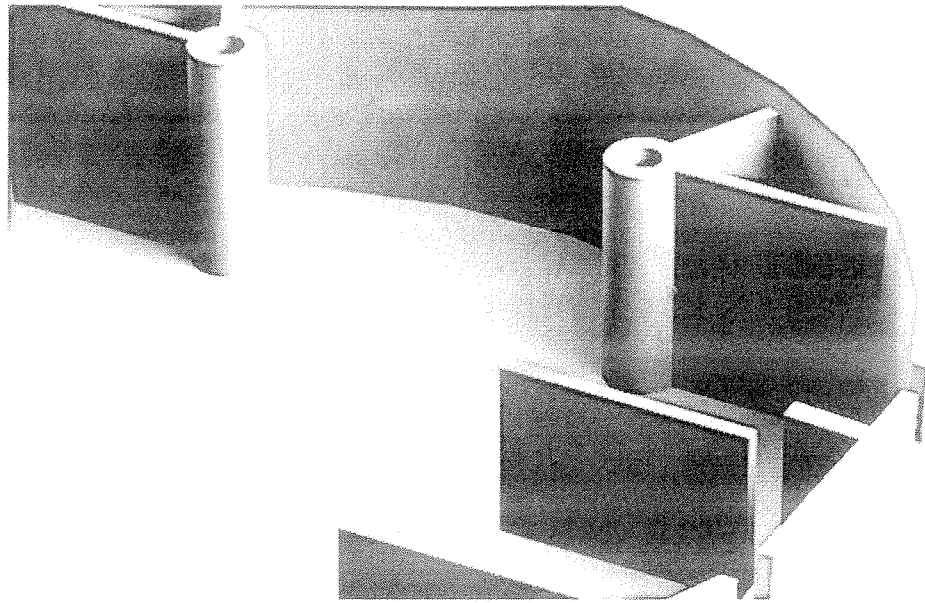

Figure Q5
- a) Identify two features and explain with suitable sketches how the part of an initial 3D model showing in Figure Q5 to be redesigned so that it can be produced using injection molding with reference to the various defects possible. If require you may attach the Figure Q5 to your answer sheet and refer it suitably.